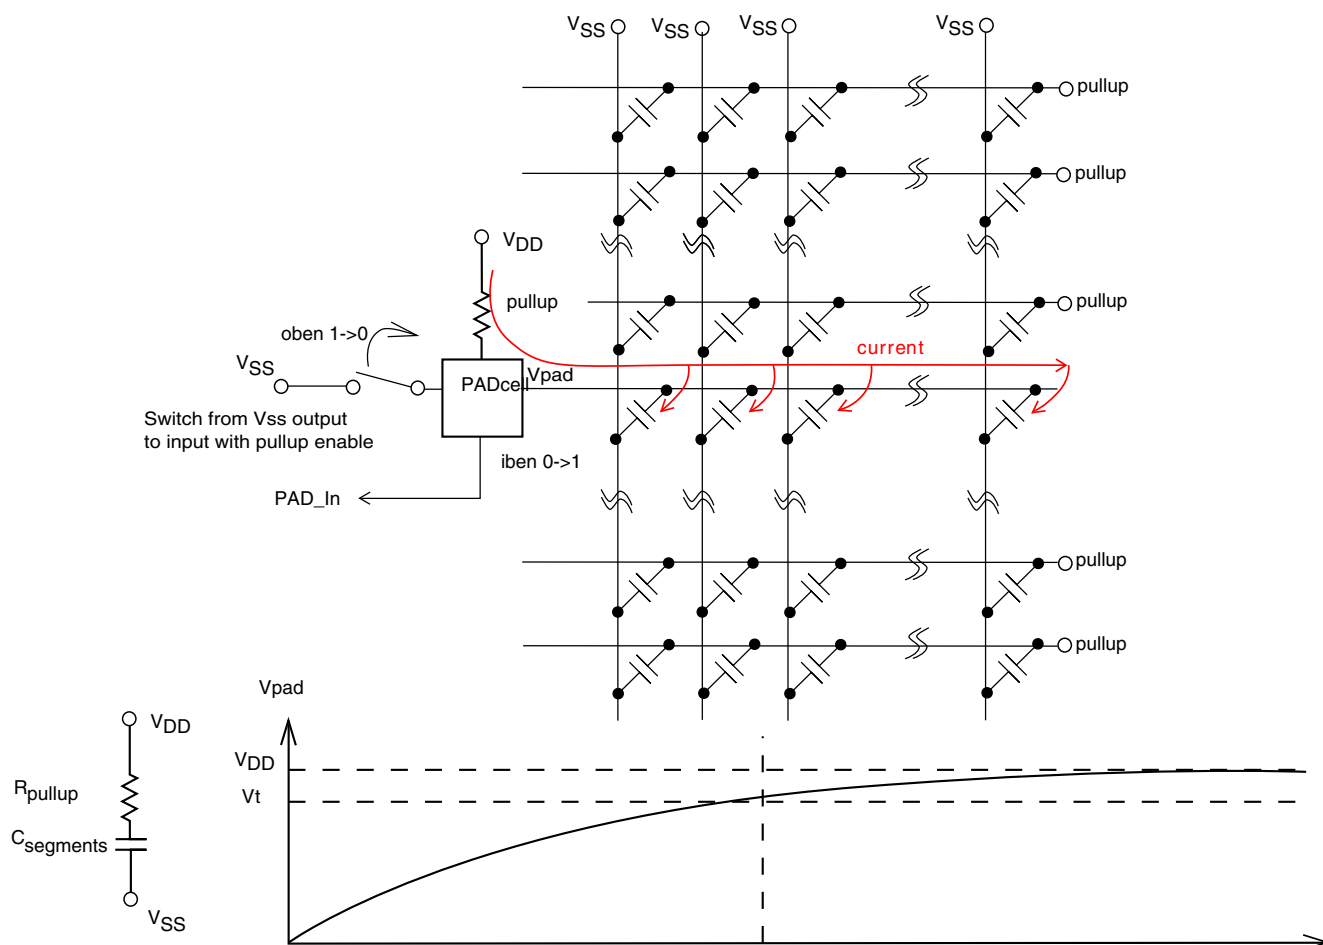
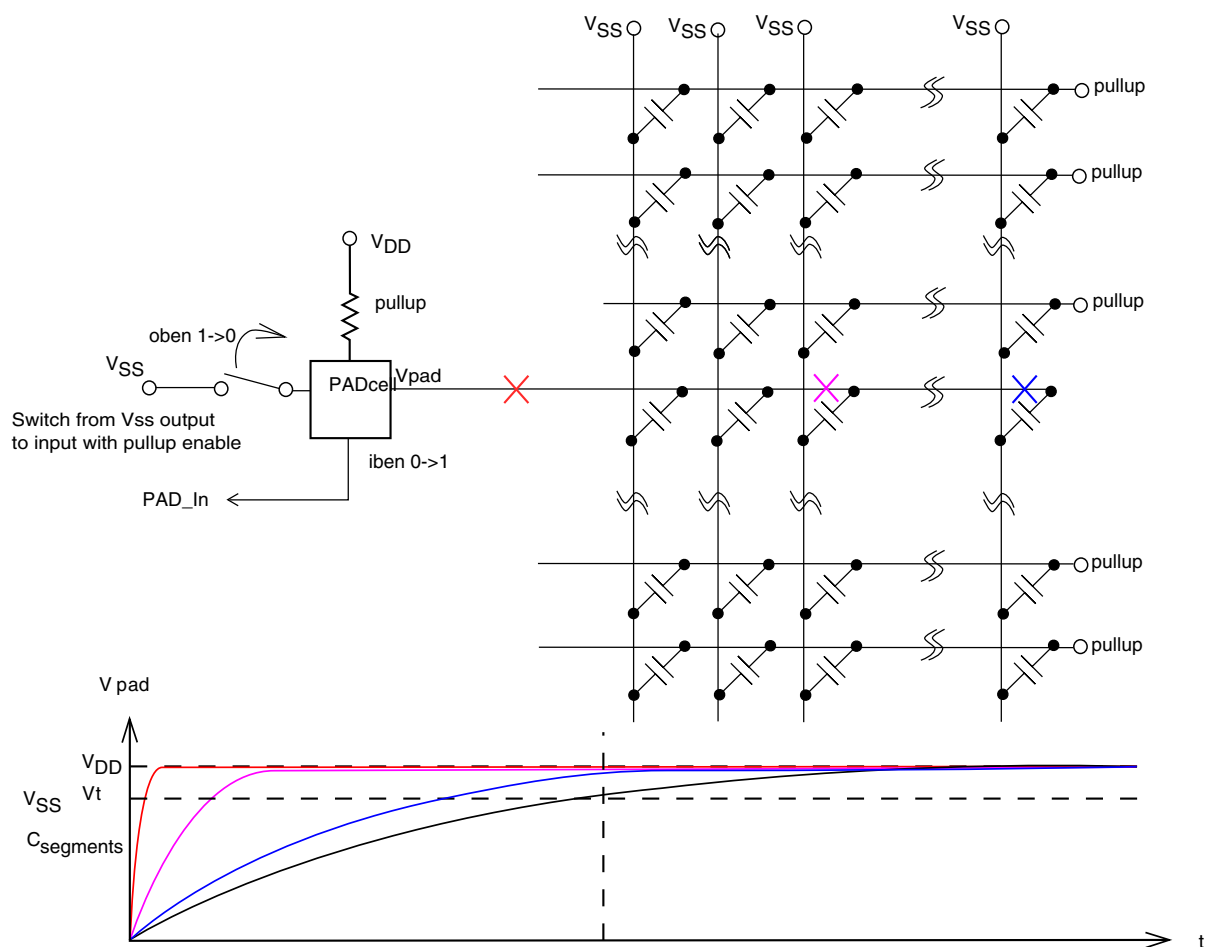
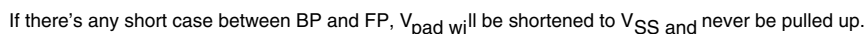

Figure 54-33. Pullup fault detect in connection/segment normal case
Figure 54-34. Pullup fault detect in connection/segment open case
Figure 54-35. Pullup fault detect in connection/segment short case
The LCD panel can be regarded as a matrix of segments, as shown in Figure 54-33, Figure 54-34, and Figure 54-35. Any open/short connection changes the capacitive characteristics of the segment matrix. The pullup fault detection checks the capacitive characteristic of an LCD_Pn pin by applying a weak pullup voltage to the display capacitor matrix. The rise time response is sampled and summed within a user-defined time frame and stored for postprocessing in FDSR[FDCNT]. The summing of the digitized values uses the principle that the response of a capacitor for each charge/discharge is constant for the same loading conditions.
- Short-circuits in the front plane or back plane connection (all silicon or board locations), see Figure 54-35.
- Opens in the front plane or back plane connection (bondwire, package, silicon, or board), see Figure 54-35.